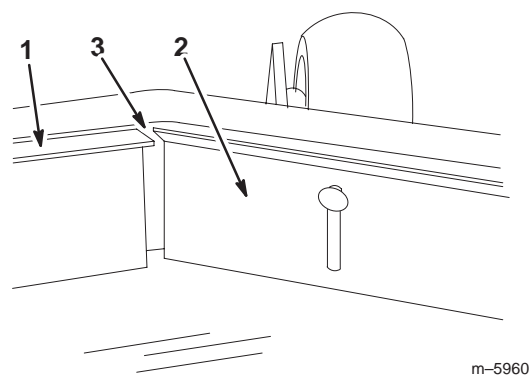

Figure 17
2. Slide the baffle to the same height as the front tunnel baffle (Fig. 17).
3. Tighten the blowout baffle bolts (Fig. 17).